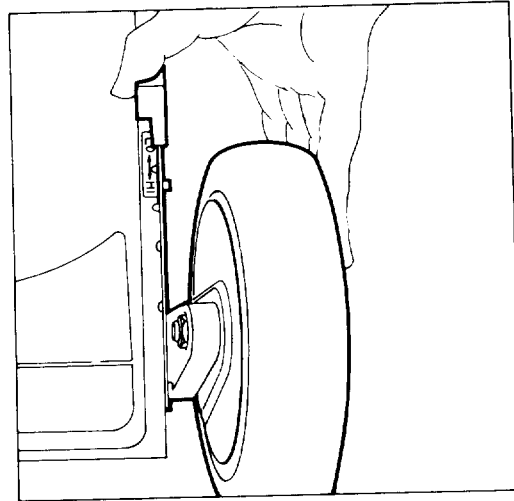

Figure 9
2. For easier adjustment, lift housing up so wheel is off ground. Squeeze adjusting lever toward wheel (Fig. 9) and move them to desired setting. Assure pin on adjusting lever